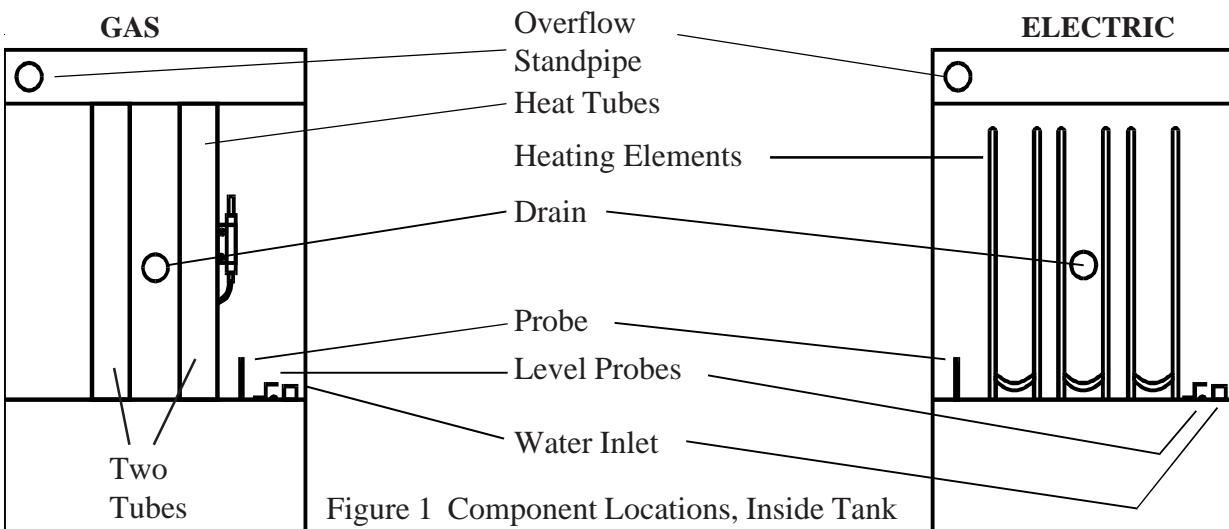

Figure 1 Component Locations, Inside Tank
- Check the High Limit probe located inside the tank. Ensure that the mounting screws are tight to prevent the probe from coming loose during operation. Figure 1 shows the location of the High Limit probe, Temperature probe, and the Water Level sensors. Also shown are the over flow stand pipe and the water entry nozzle. Look down inside the Rethermalizer tanks to see the probes.